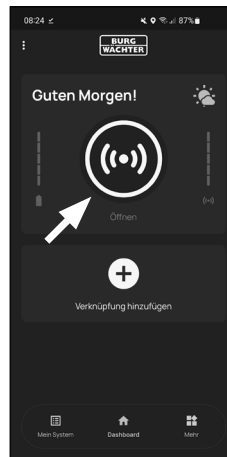

Fig. 1
To use the cylinder (Fig. 1) and keypad (Fig. 2), remove the battery protection strips.
- 1 Open the BURGsmart app and press the "ACCESS" button in the middle (Fig. 1).